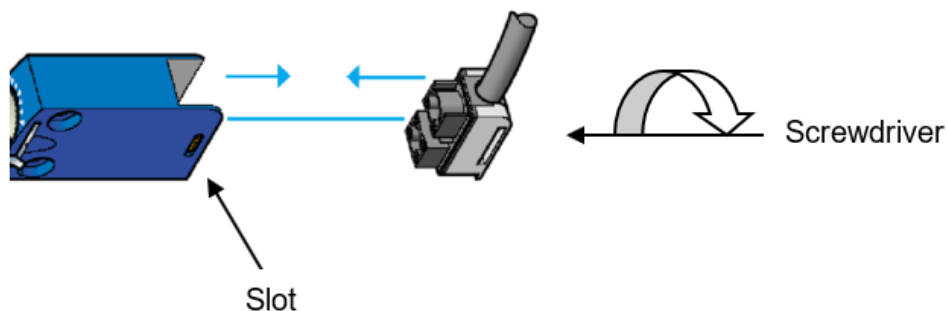

Fig. 5.1
2. Remove the 2 connectors from the opening and adjustment switches Fig.5.1 using a flat screwdriver. To unlock the connector, insert the screwdriver behind the connector and turn it 1/4 turn anti-clockwise then insert the screwdriver into the slot on the side to release the connector.